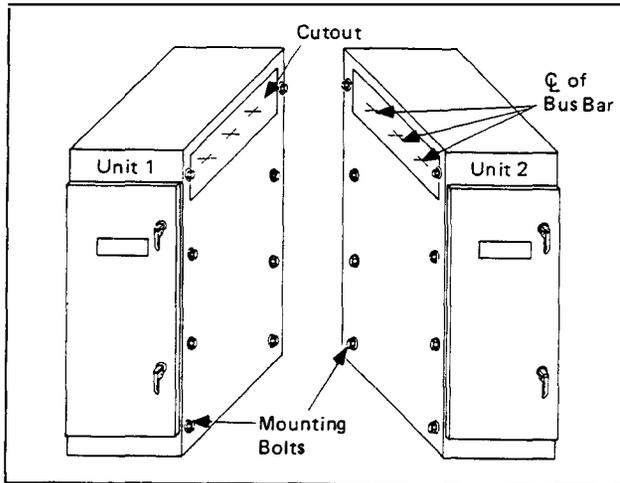

Fig. 2 Joining WLI Enclosures
3.0.2 Procedures for Joining WLI or WVB Enclosures at Shipping Splits (Refer to Fig. 2)